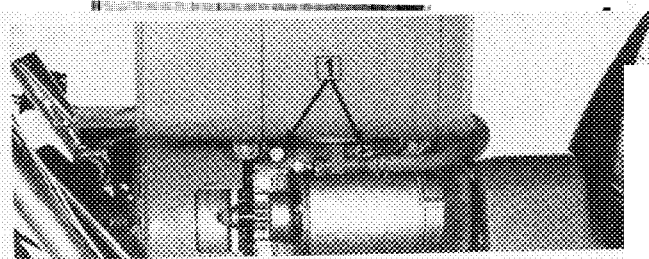

Figure 6
10. Remove two self tapping screws securing bottom of fuel tank bracket to engine (screws to be used later in assembly) (Fig. 6).